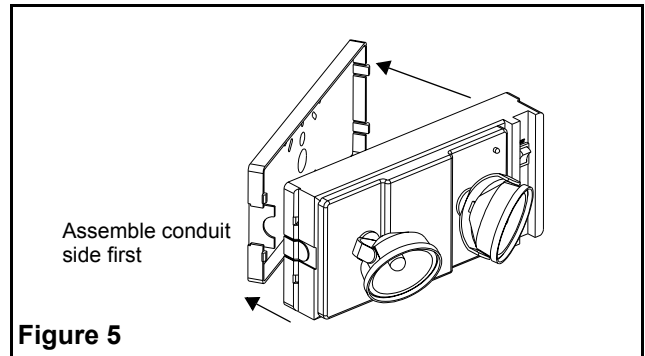

Figure 5
8. Slide the housing over the tabs; conduit side on housing over conduit side on backplate (see fig. 5). Assemble the conduit side first, then align the tabs on the other side of the housing and of the backplate. Press together until it snaps.